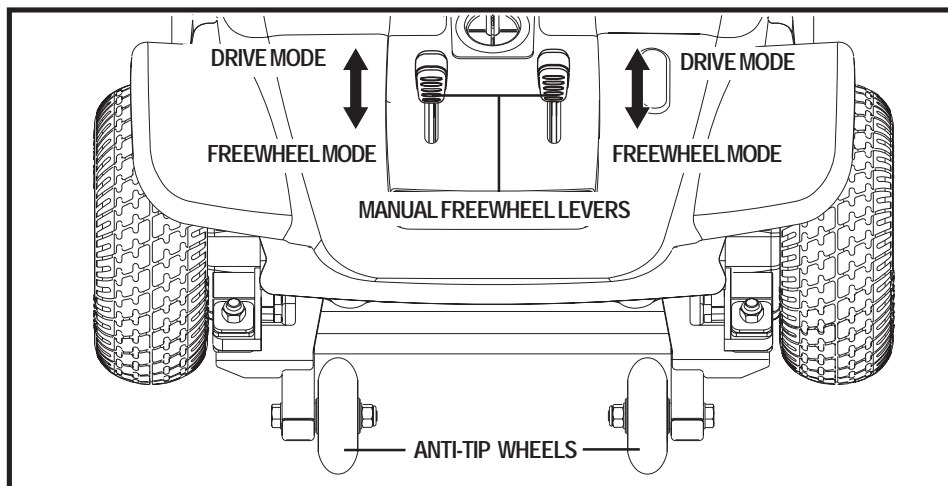

Figure 7. Back of Power Base
1. Locate the levers on the rear section of the power base. See figure 7.
The anti-tip wheels are an integral and important safety feature of your Z-Chair. They are bolted to the frame at the rear of the chair. See figure 7.